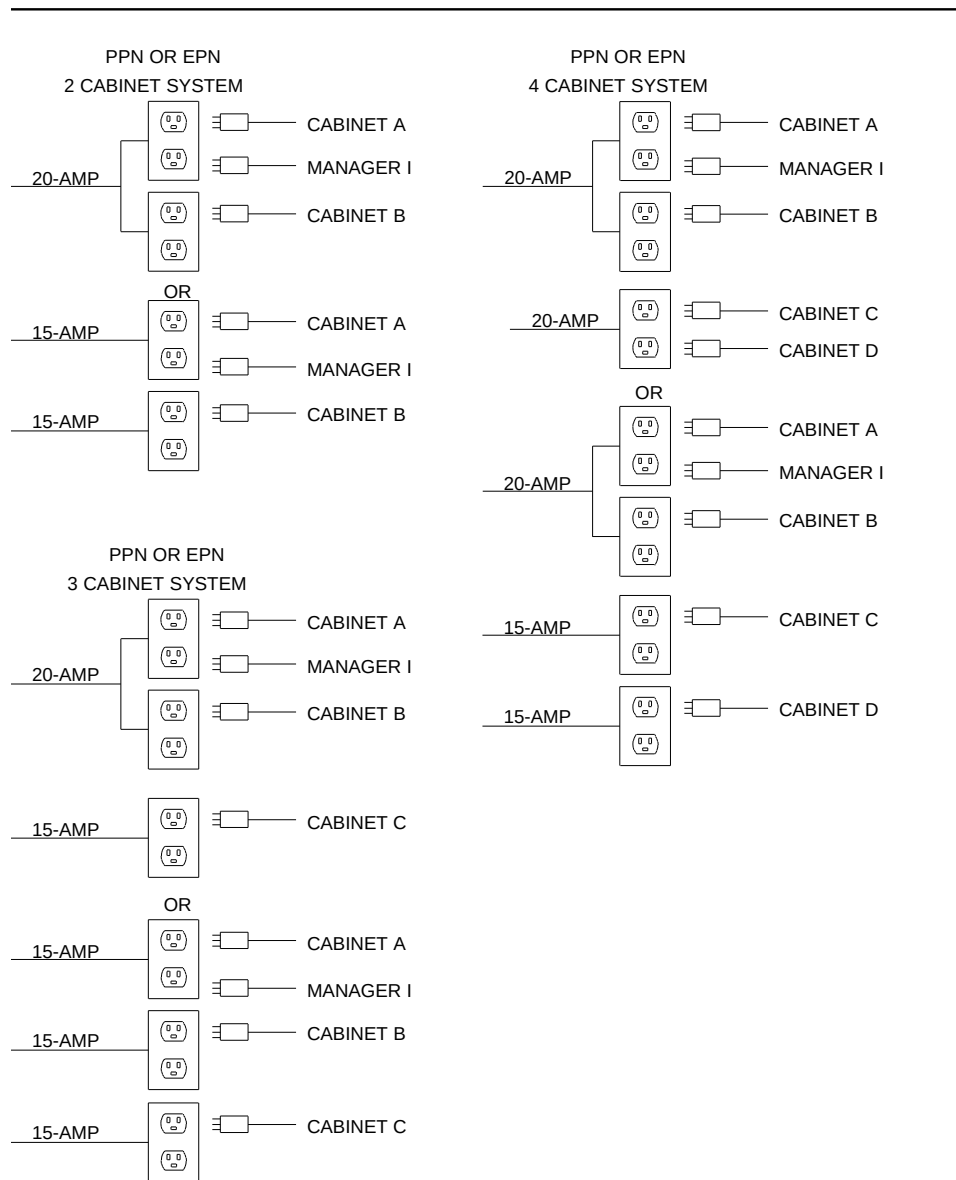

Figure 4-15. Typical AC Power Receptacle Requirements for Multiple Cabinet Arrangements
4. Measure voltage between neutral side of receptacle and receptacle ground (Figure 4-15).
Figure 4-15 applies to multiple PPN and EPN cabinet arrangements. In other words, if multiple EPN cabinets are required, the customer must provide the receptacles for the 4-cabinet PPN arrangement in addition to the receptacles for a 2-, 3-, or 4-cabinet EPN arrangement.